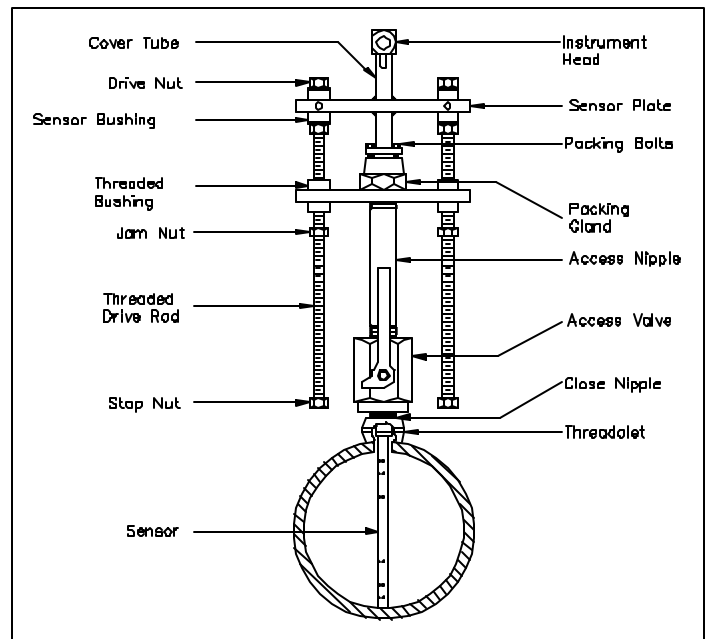

Figure 7. Installed V200 (Double)
- High temperature grease has been applied to the threaded rod(s) at the factory. Verify the threaded rod is adequately greased prior to inserting the sensor. If necessary, smear grease on the threaded drive rod(s). Grease should also be applied to the zerk fitting located on the threaded bushing (Figure 7). A high temperature grease should be used on all steam applications and for temperatures above 200°.
The Verabar is now properly installed (Figure 7).